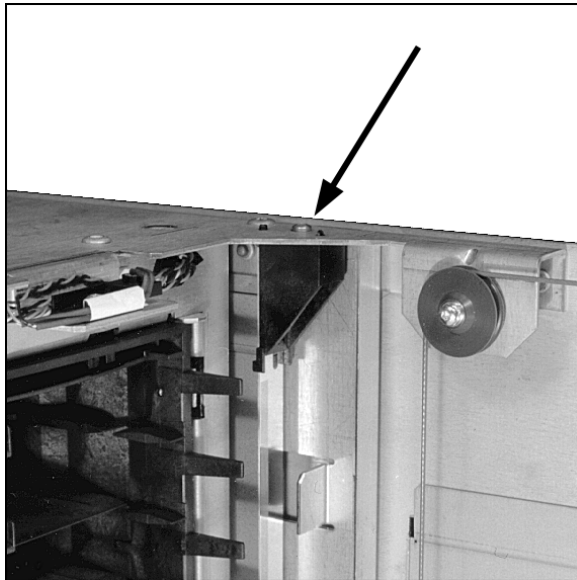

Figure 5-31. Vertical Encoder Strip Top Mount and Screw
3. Remove the T-15 screw holding the top mount of the vertical encoder strip (see Figure 5-31).